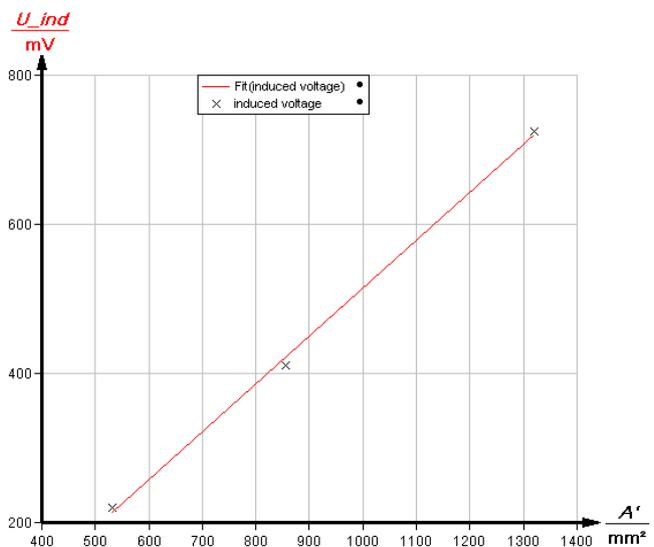

Fig. 6: Induced voltage for various coils with 300 turns. The dependence of the cross-sectional area follows relation (17).
Measurements were done at 10.7 kHz and 30 mA. All induction coils with 300 turns were used in this experiment. Figure 6 shows the obtained values which were fitted to a linear function as in equation (17).